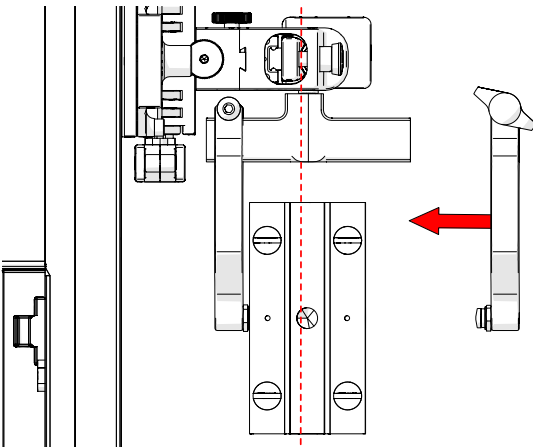

Fig. 76 - Align probe with yoke
6. Align the middle of the wedge with the centre of the yoke (Fig. 76).